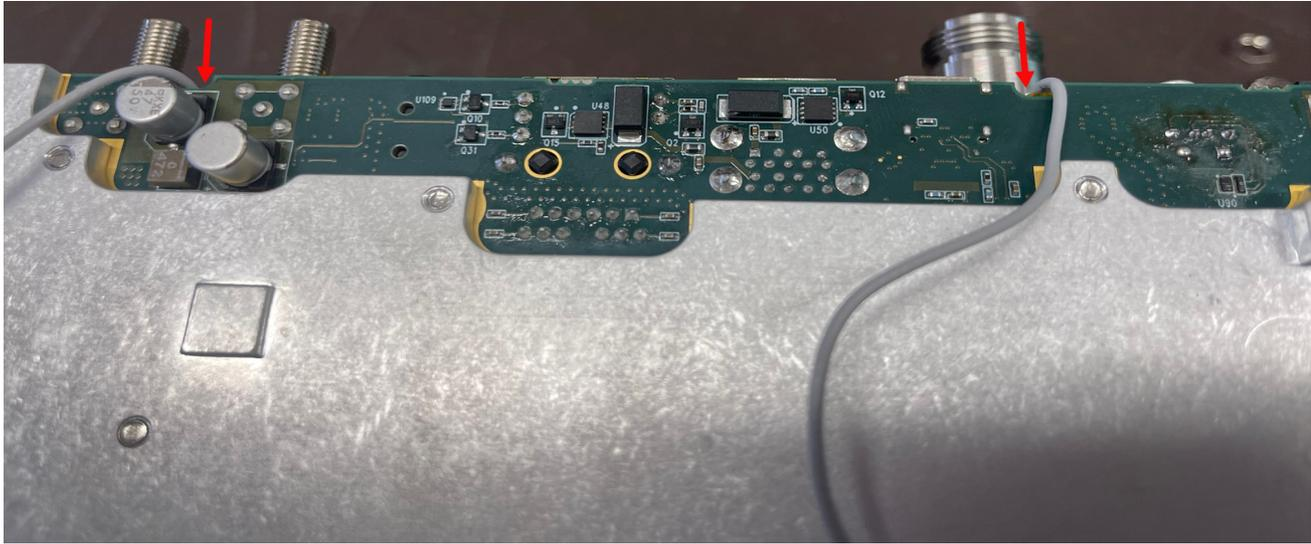

Figure 4-20. Reassembling the unit
1. Ensure to carefully align the cables of the Wi-Fi antenna into the little grooves of the Main PCB to prevent the Wi-Fi antenna cables from being smashed or crimped. See Figure 4-20.